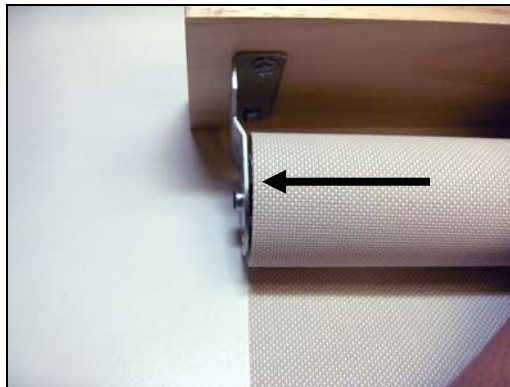

Figure 9 Idler pin collapsed
- Gently push the shade toward the idler bracket until the idler pin on the shade collapses. See Figure 9.